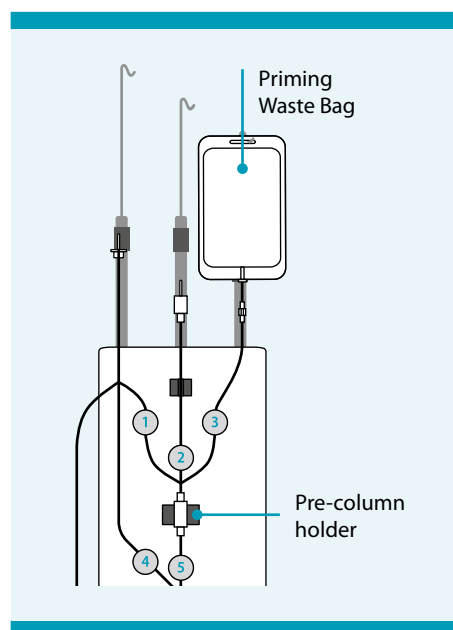

Figure 7.3: Attach Priming Waste Bag to bag hanger
1. Attach the Priming Waste Bag to the right-hand bag hanger on the instrument (see Figure 7.3).
3. Place the pre-column into the holder (see Figure 7.3).